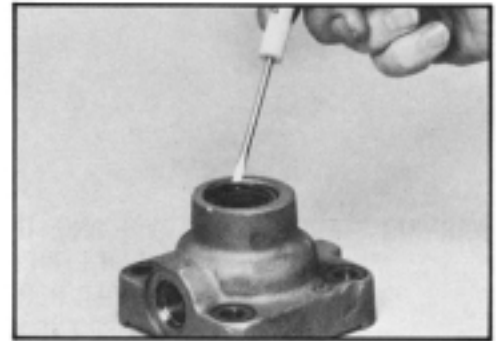
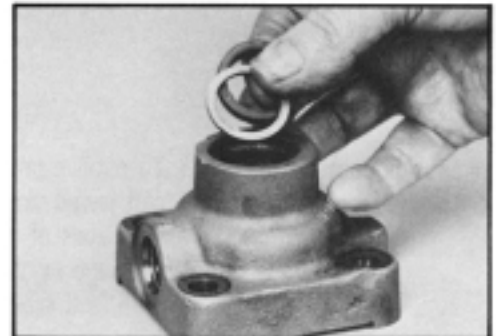

Figure 71
Figure 72
26. Remove retaining ring (2) from upper cover (7) with the appropriate retaining ring pliers or small screw driver. SEE FIGURE 71. Remove backup washer (3) and seal (4). SEE FIGURE 72. Discard seal.